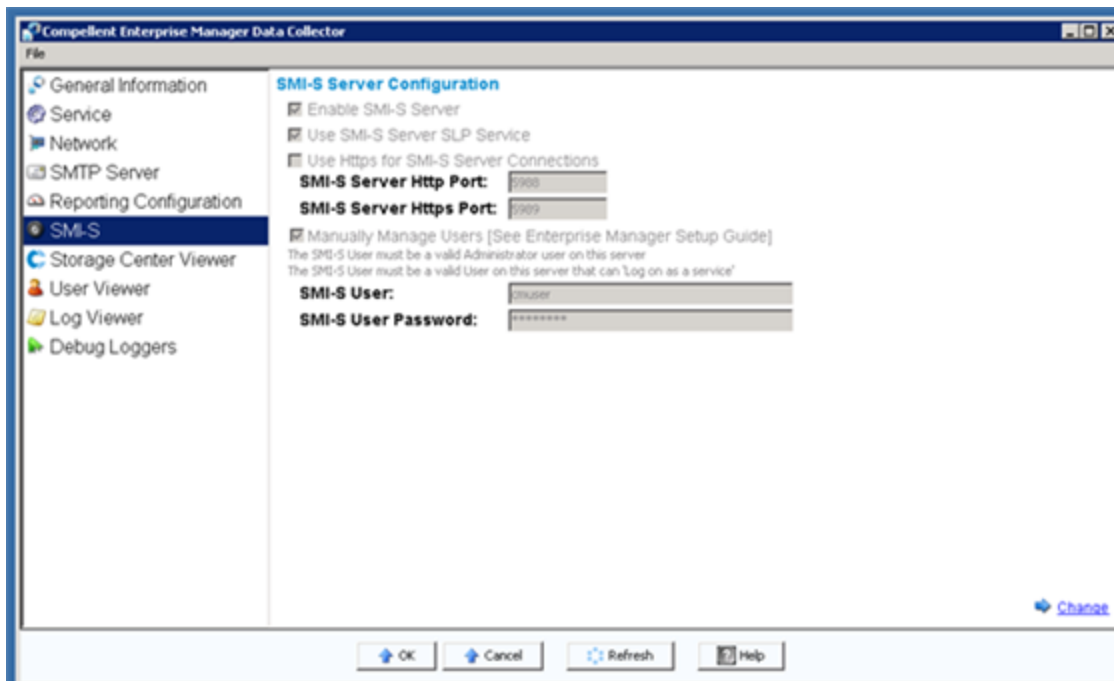

Figure 10: Enabling the SMI-S Server properties for a Local Service Account Service User Type
3. Finally, you will be required to enable the SMI-S server properties as shown in Figure 10 . Clicking the **Change** link in Figure 10 will enable you to make the following changes to the SMI-S Server Configuration: